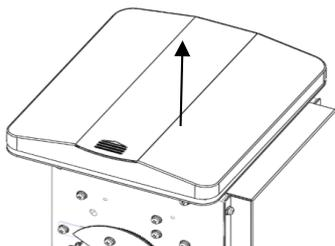

Figure 8-24
- 1) Open the sealed cap up(Figure 8-24).